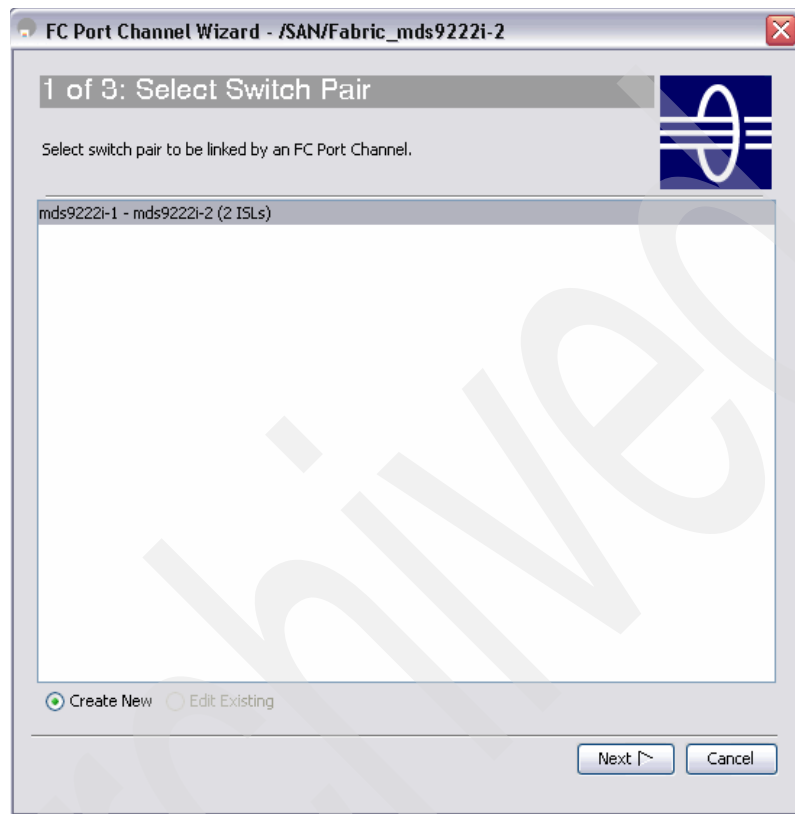

Figure 7-22 FM Port Channel Wizard panel 1 of 3
2. In the first panel of the wizard (Figure 7-22) we identify the switch pair that will be linked by the PortChannel. In our case, **Create New** is automatically selected (because there are no existing links to edit).